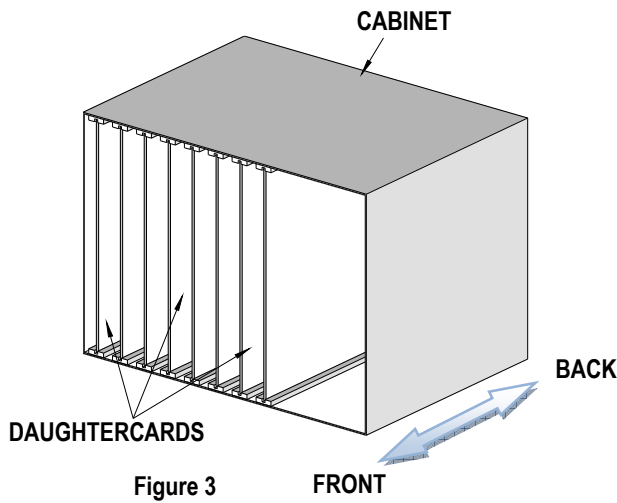

Figure 3
3. From the front of the cabinet carefully remove the daughter card that is connected to the damaged adaptor assembly. See Figure 3 and 4.